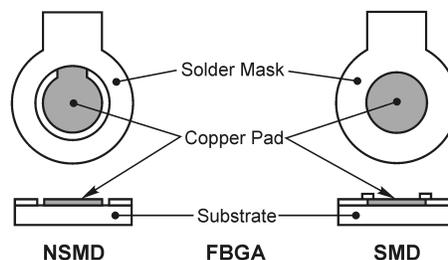
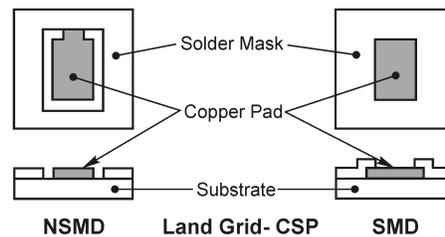

Figure 4. Comparison of NSMD and SMD pads (FBGA)
Figure 5. Comparison of NSMD and SMD pads (Laminate CSP)
Two types of land patterns are used for surface mount packages: (1) solder mask defined (SMD) pads that have the solder mask opening smaller than metal pad and (2) non-solder mask defined (NSMD) pads that have the metal pad smaller than the solder mask opening. Figure 4 and Figure 5 illustrate the two types of pad geometry.